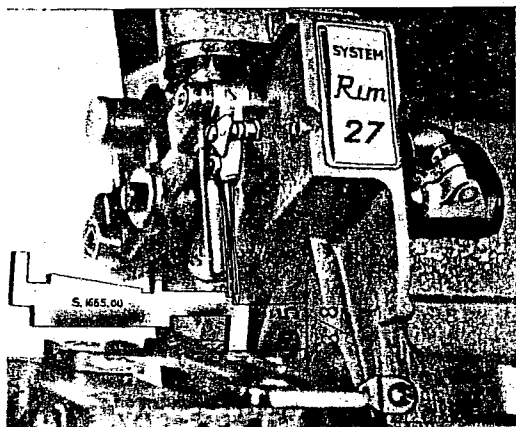

fig. 3
3. Setting of overedging needle (fig. 3)
- If adjustment is necessary, loosen screw 'A' (fig. 3) and move needle bar clamp up or down using needle gauge S 1665.00 as indicated in (fig. 3) to obtain the correct setting.